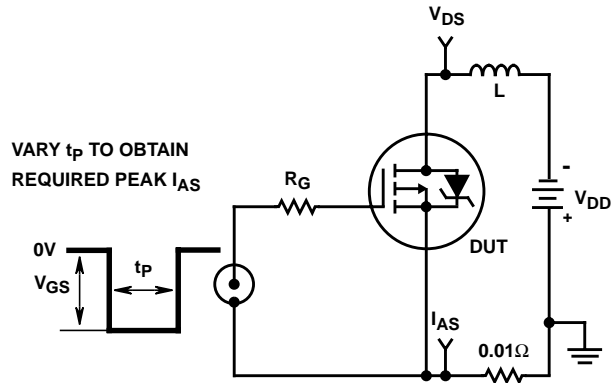

FIGURE 15. UNCLAMPED ENERGY TEST CIRCUIT
4.  $V_{DD} = 50\text{V}$ , starting  $T_J = 25^\circ\text{C}$ ,  $L = 17.75\text{mH}$ ,  $R_G = 25\Omega$ , peak  $I_{AS} = 6.5\text{A}$  (Figures 15, 16).